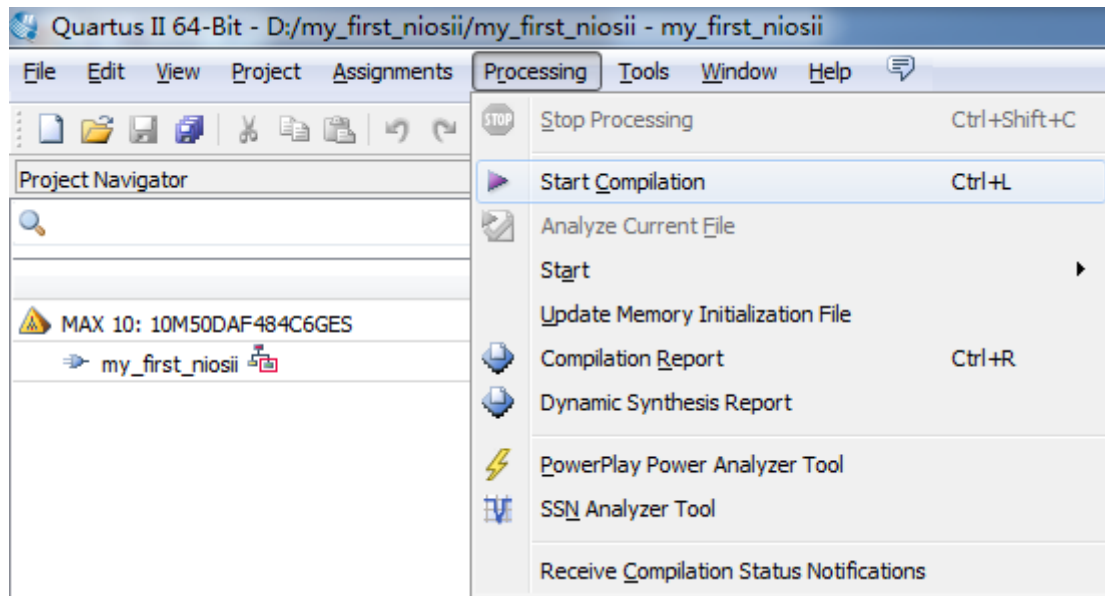
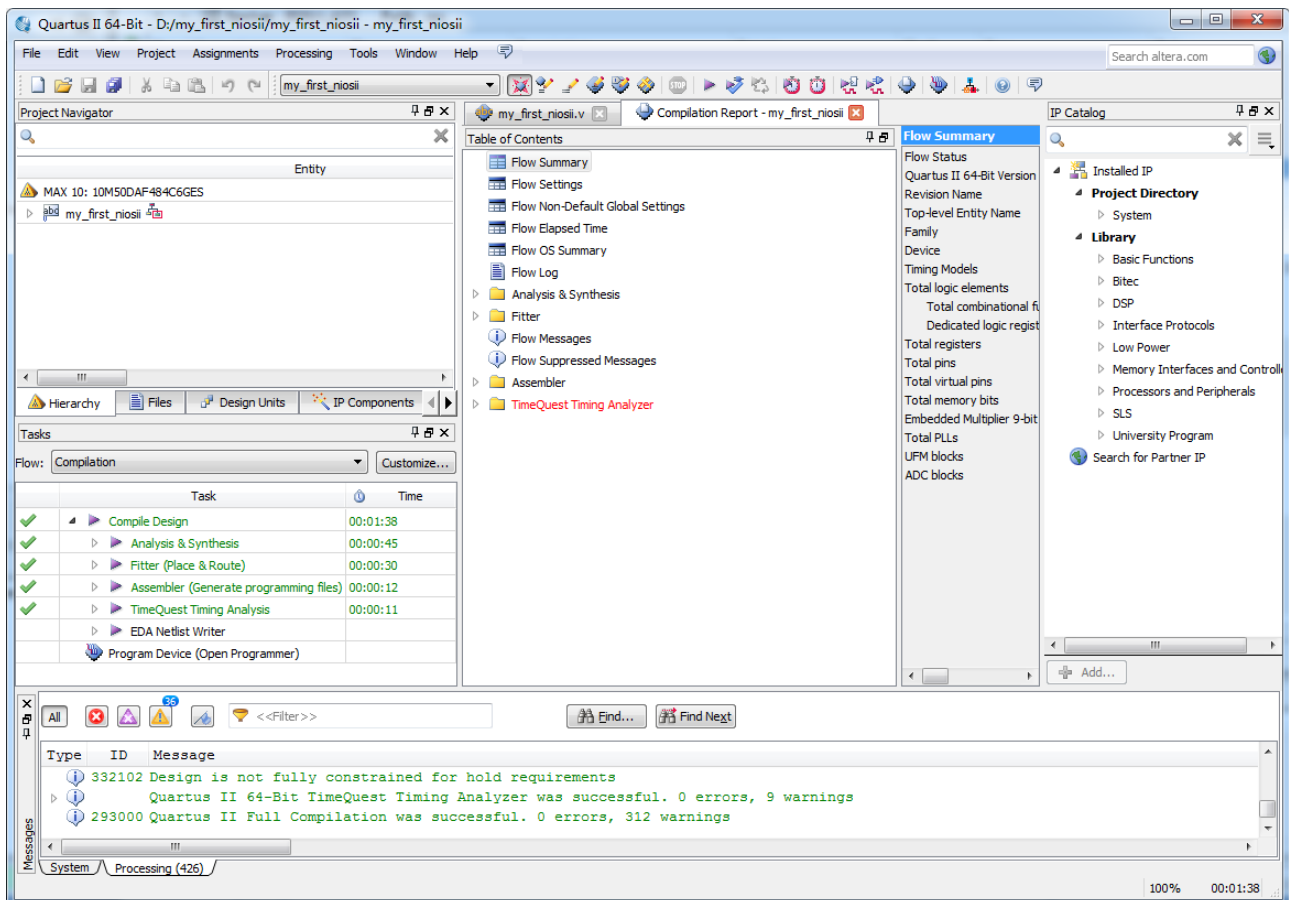

Figure 1-43 Start Compilation
Figure 1-44 Project is compiled successfully
37. Choose **Processing > Start Compilation**, as shown in **Figure 1-43**. **Figure 1-44** shows the compilation is successful.